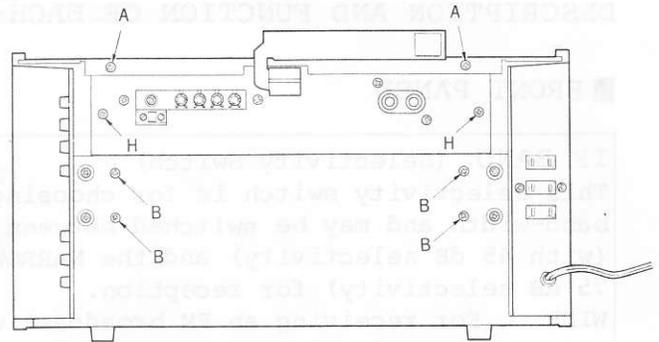

Fig. 1
- 1) After removing the two screws indicated as A in Fig. 1, take off the top plate, pulling it toward the back.
- 2) The cabinet is removed by taking off the four screws indicated as B in Fig. 1 as well as the two screws located at the bottom.
- 4) Remove the rear-chassis-fixing screws (H of Fig. 1) of the tuner section.